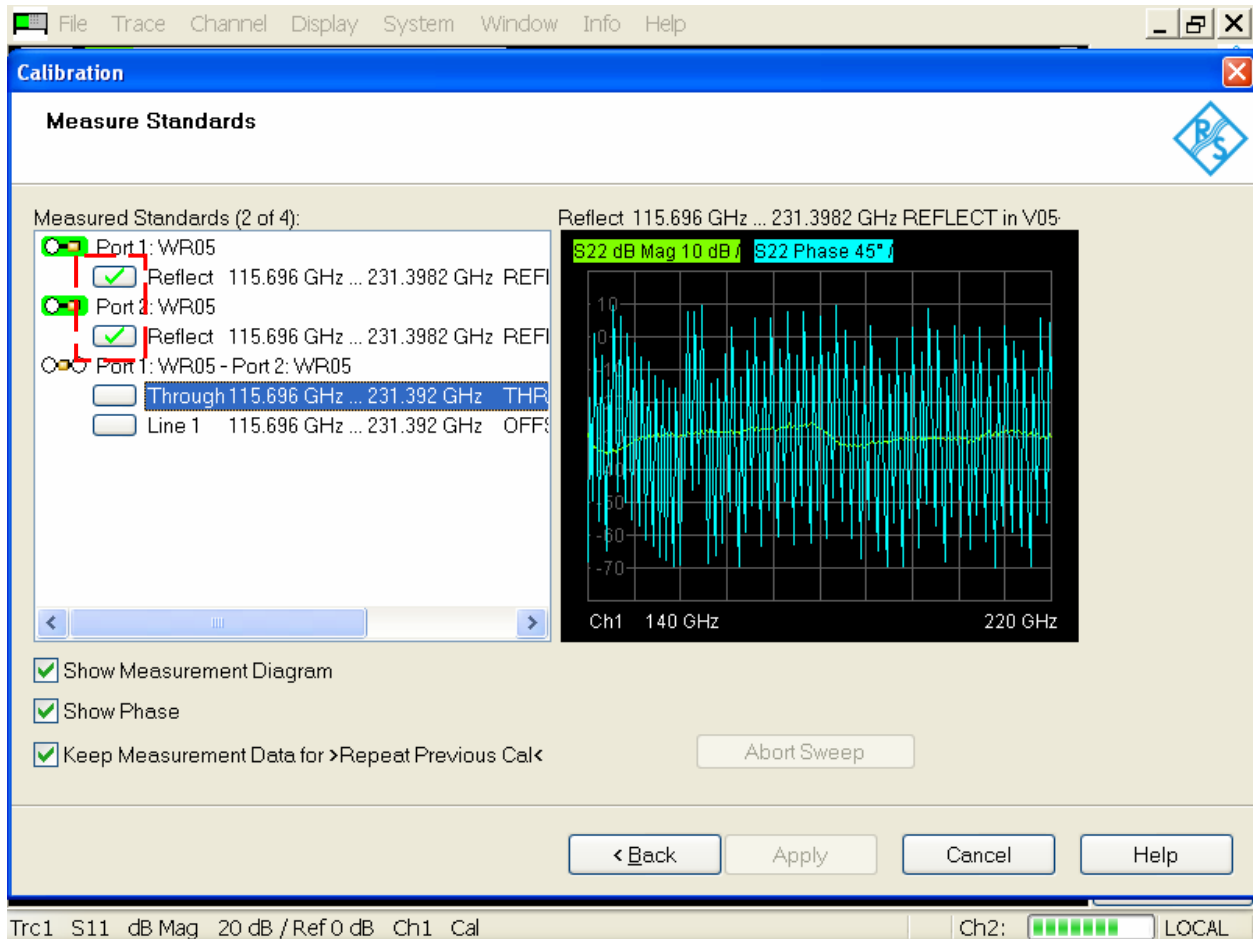

Figure 4 – Port 2 “Reflect” Standard Measurement
6. Select “**Port 2: WR05**” to start Port 2 “**Reflect**” standard measurement. A “green” check mark will appear once measurement is completed (Figure 4).